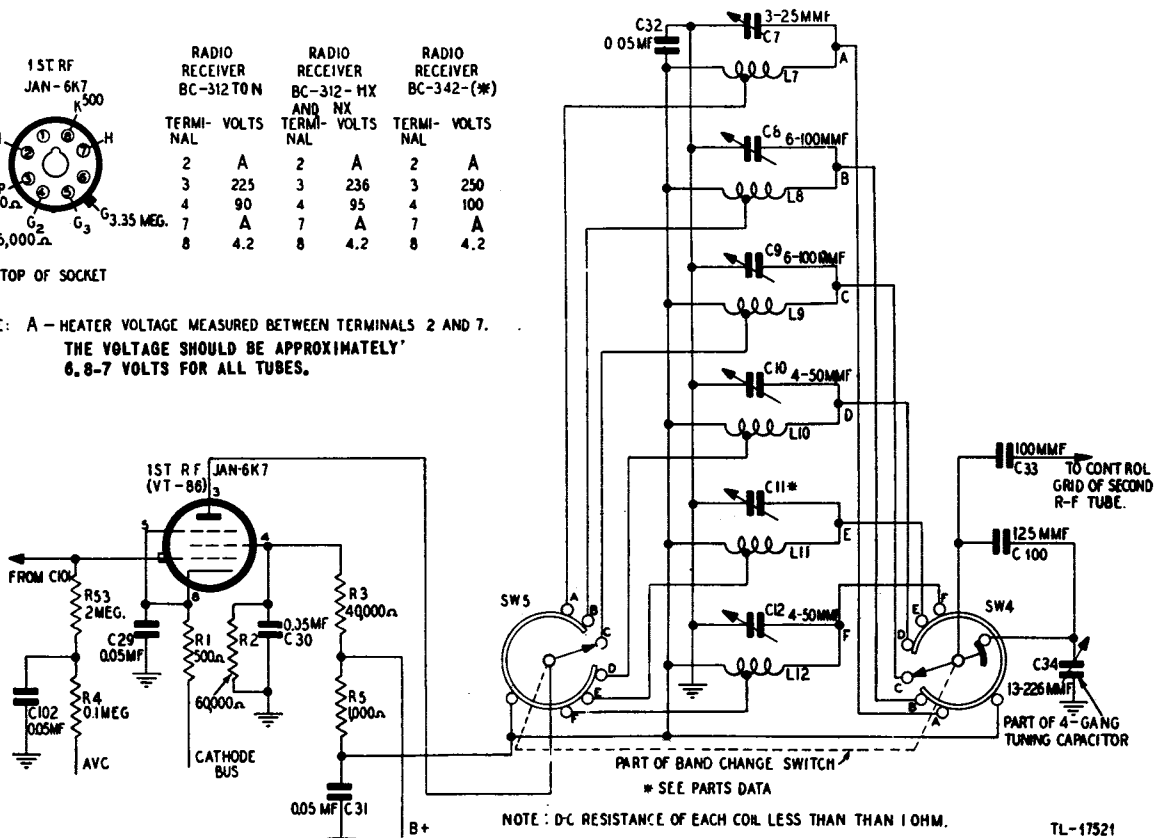

Figure 22. First r-f amplifier, schematic diagram.
b. VOLTAGE AND RESISTANCE MEASUREMENTS. The voltage and resistance measurements shown in figure 22 are made from the top of the tube socket with the tubes plugged into an adapter similar to that supplied with some models of Test Set I-56-(*). When no adapter is available, strip the ends of a short piece of insulated wire; wrap one end around the tube pin at which measurements are to be made. Plug the tube into its socket; connect the meter between the other end of the wire and the chassis to obtain these readings. Avoid grounding the wire to the chassis. Before making resistance measurements remove tubes from their sockets. Make the tests under the following conditions:
- (1) *Voltage measurements.*